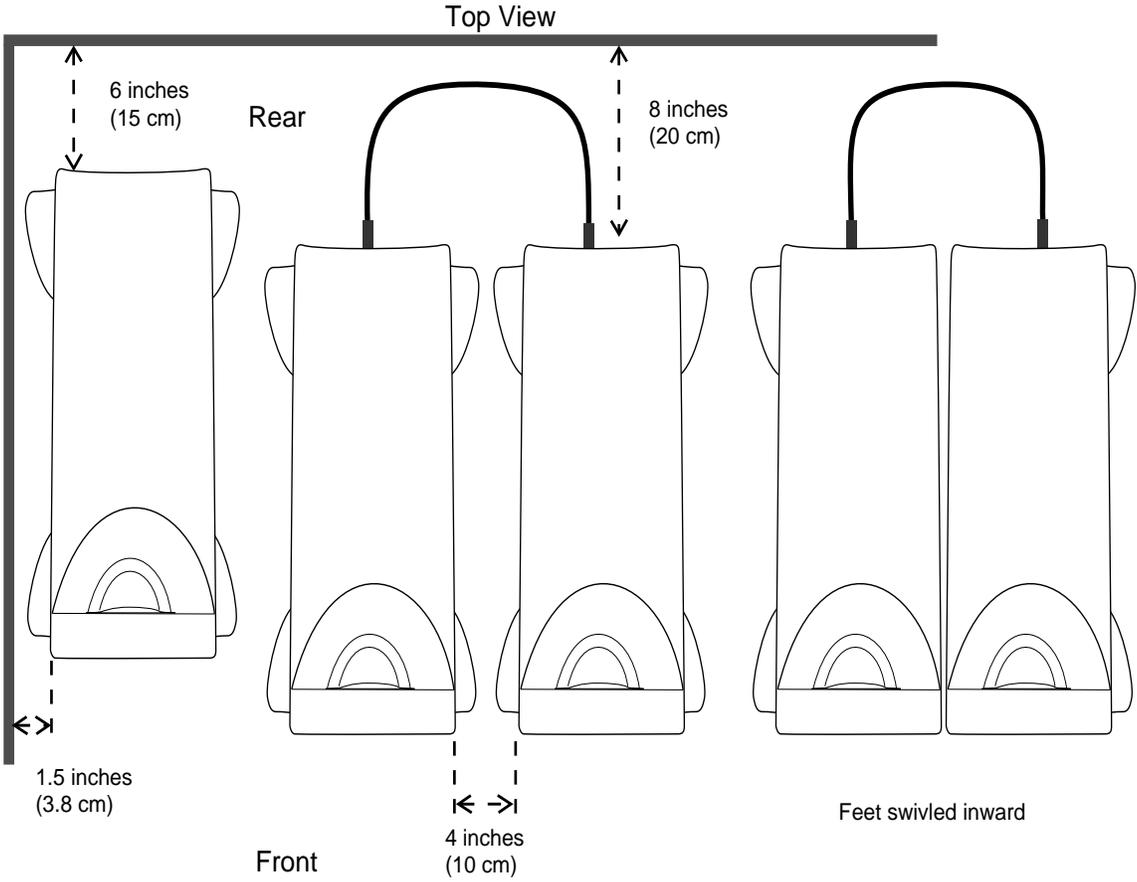

Figure 2-1 Minimum Clearances for the Origin200 Server, Tower Configuration
- Be sure to provide adequate space for proper airflow and cooling. Refer to Table 1-4 in Chapter 1, “Overview of the Origin200 System” for a complete list of environmental specifications. Figure 2-1 below shows the minimum distances required around the chassis.